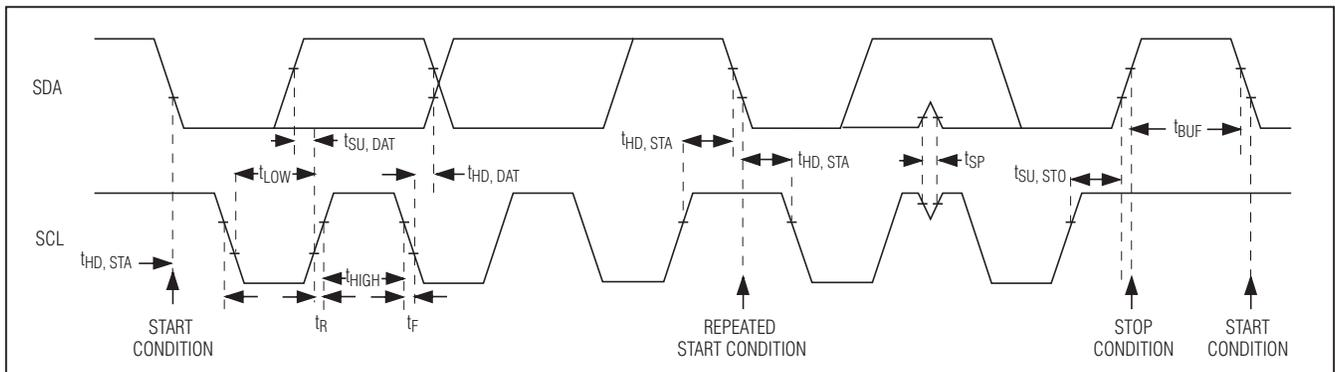

Figure 8. 2-Wire Interface Timing Diagram
The MAX9856 features an I²C/SMBus™-compatible, 2-wire serial interface consisting of a serial-data line (SDA) and a serial-clock line (SCL). SDA and SCL facilitate communication between the MAX9856 and the master at clock rates up to 400kHz. Figure 8 shows the 2-wire interface timing diagram. The master generates SCL and initiates data transfer on the bus. The master device writes data to the MAX9856 by transmitting the proper slave address followed by the register address and then the data word. Each transmit sequence is framed by a START (S) or REPEATED START (Sr) condition and a STOP (P) condition. Each word transmitted to the MAX9856 is 8 bits long and is followed by an acknowledge clock pulse. A master reading data from the MAX9856 transmits the proper slave address